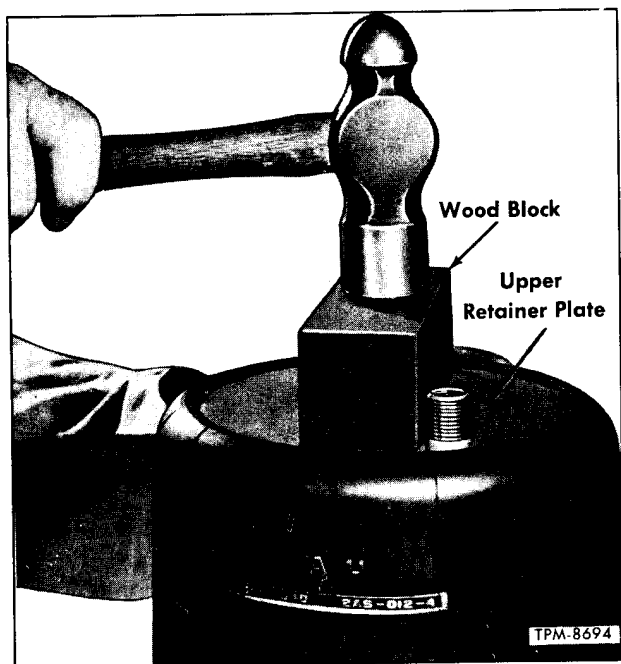

Figure 16—Loosening Retainer Plate From Bellows Bead
2. Place wood block across upper retainer, then drive with hammer (fig. 16) until retainer is loose from bellows bead.